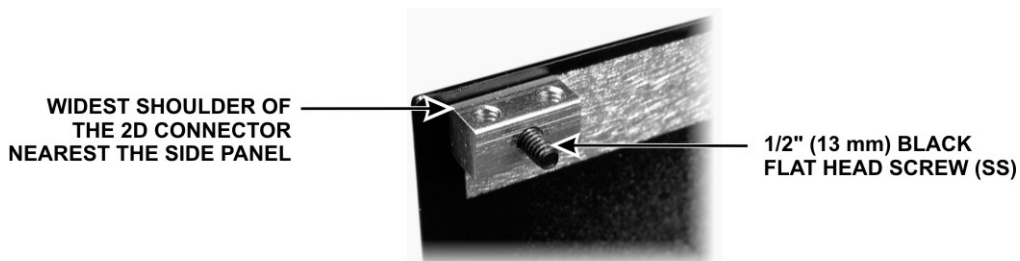

Figure 71. Mounting 2D fastener for KANT3A or KAT3A Standoff.
At the upper rear corner of the side panel you just identified in the previous step, mount a 2D fastener as shown in Figure 71, using a black 4-40 1/2" (13 mm) flat head screw (SS). Remember that flat head screws are measured from the flat top to the end of the threads. Note that the screw extends some distance through the 2D fastener.